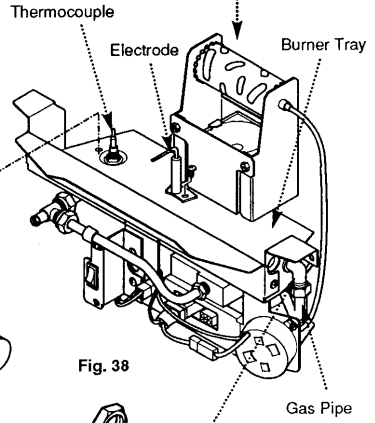

Fig. 38
1. Undo the screw retaining the spark electrode to the burner tray (Fig. 38).
5. Undo the union nut connecting the gas pipe to the injector (Fig. 38).